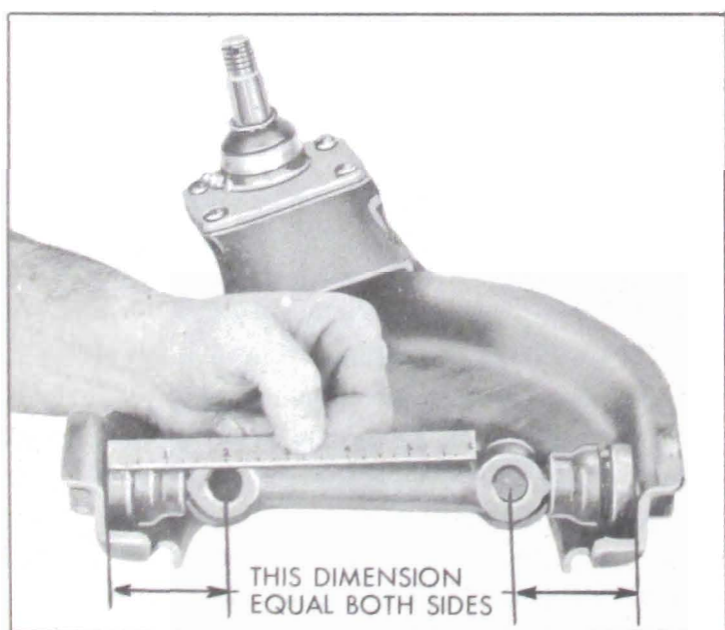

Figure 7-11—Upper Control Arm Shaft Position
8. Rotate shaft to make distance between shaft bolt holes and arm equal both sides as nearly as possible. See Figure 7-11.